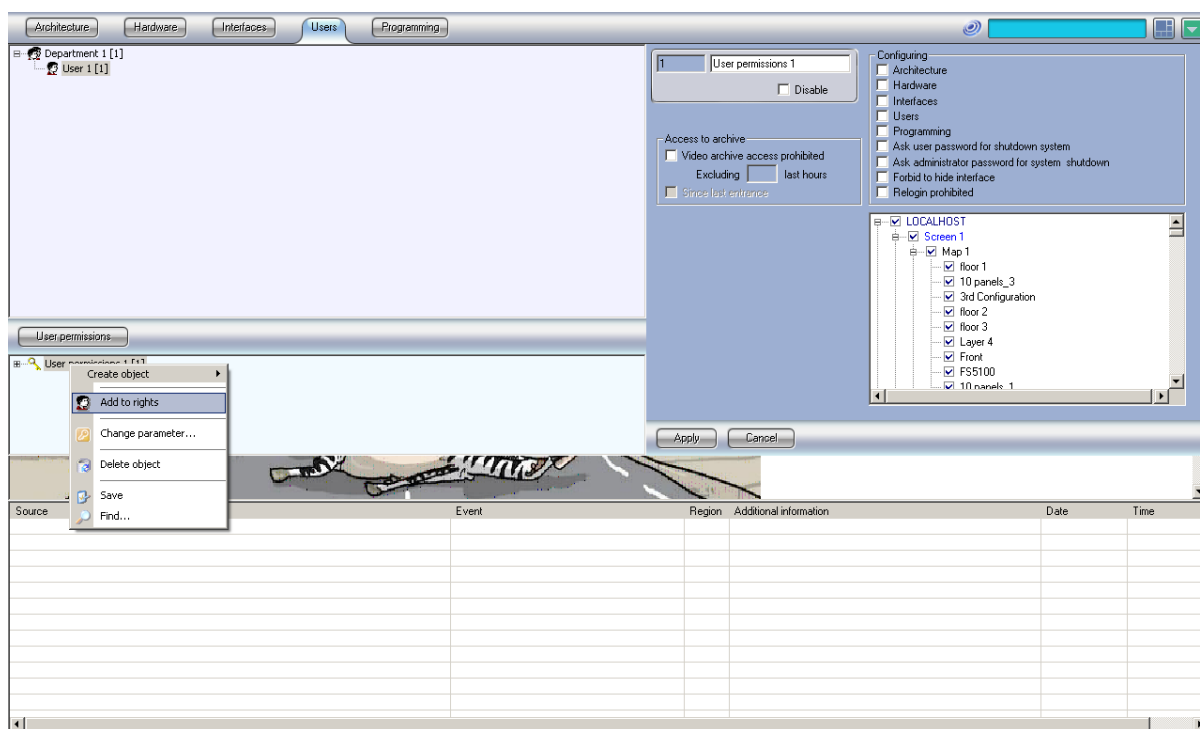

fig. 67
- Assign different users to the different “User rights” – for each “User permission” profile you can set the available Users form the “Department” object (fig.67);